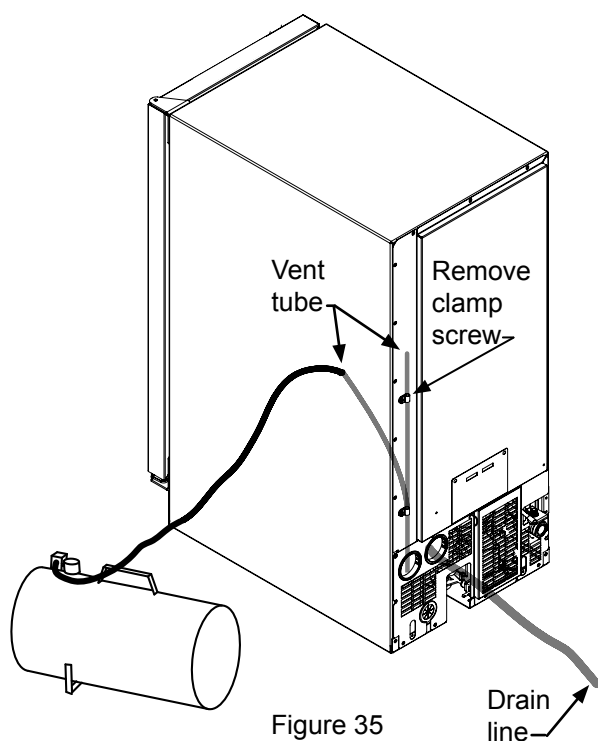

Figure 35
15. Apply air pressure (approximately 10 psi) to the end of the vent tube which will purge the remainder of the water from the drain pump and the drain line. (See Figure 35).